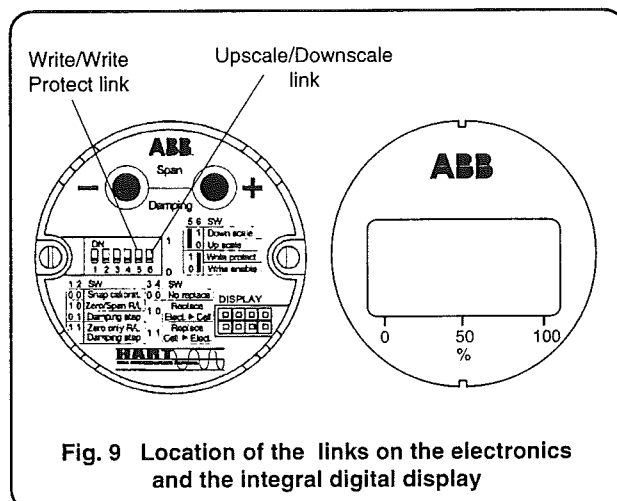

Fig. 9 Location of the links on the electronics and the integral digital display
- iii) the write protect link, located on the electronics module is in position OFF (write allowed). Access to the link is gained by unscrewing the secondary unit housing cover at the opposite end to the terminal cover (See Fig. 9).
- iv) the Upscale/Downscale link is positioned to the required function: ON for Downscale OFF for Upscale (see Fig. 9).